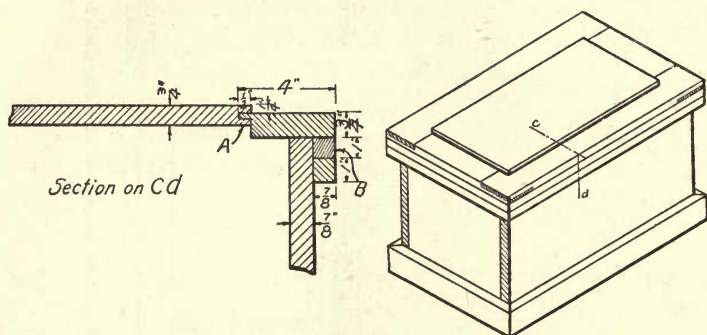
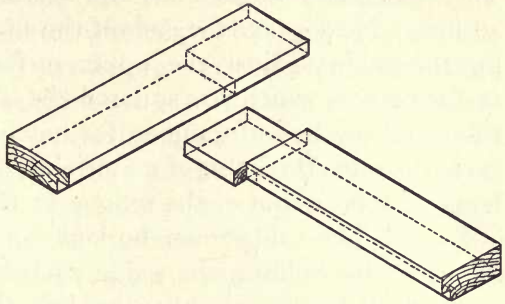

FIG. 120.—ASSEMBLED TOOL CHEST.
FIG. 121.—HALVING THE CORNERS OF THE TOP.
tongue of the rabbet in the frame. The rabbet and groove are shown in Fig. 120 at *A*. The method of halving the pieces together after cutting the rabbet is shown in Fig. 121, which is an illustration of the pieces ready to assemble.
8. **Mitering the strips for the top.** — If the top has been made according to the dimensions on the drawings, it will extend over the sides of the box 1" on each side and over the ends the same distance. Four strips each 1" wide and $\frac{7}{8}$ " thick are to be fastened to the underside of this overhang of the top. These strips must be fitted so as to fit tight around the box, and are to be mitered at the corners. Lay out and cut just as the bottom strips were. Fasten to the top by screws put down through the top into the strips. (See *B*, Fig. 120.) Underneath these strips are four others the same size fastened to the box, and they act as a shoulder on which fall the top strips. (*A*, Fig. 119.)